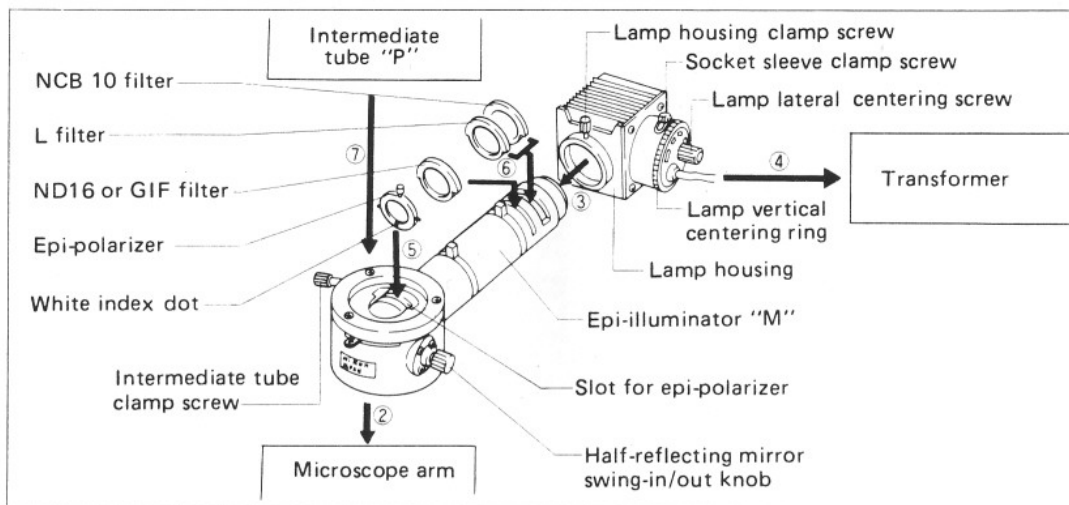

Fig. 26
- Referring to Fig. 26, assemble in the order given.
- ① Remove the eyepiece tube and the intermediate tube "P" from the Y-POL stand.
- ② Mount the epi-illuminator "M" on the microscope arm, positioning the illuminator nearly parallel to the arm. Clamp the screw.
- ③ After releasing sufficiently the clamp screw on the lamp housing, to which the lamp bulb (6V-20W Halogen lamp) and socket is attached, insert the lamp housing into the epi-illuminator "M" and clamp the screw.
- ④ Connect the lamp cord to the transformer.
- ⑤ Place the epi-polarizer into the slot, facing the white index dot toward the mirror.